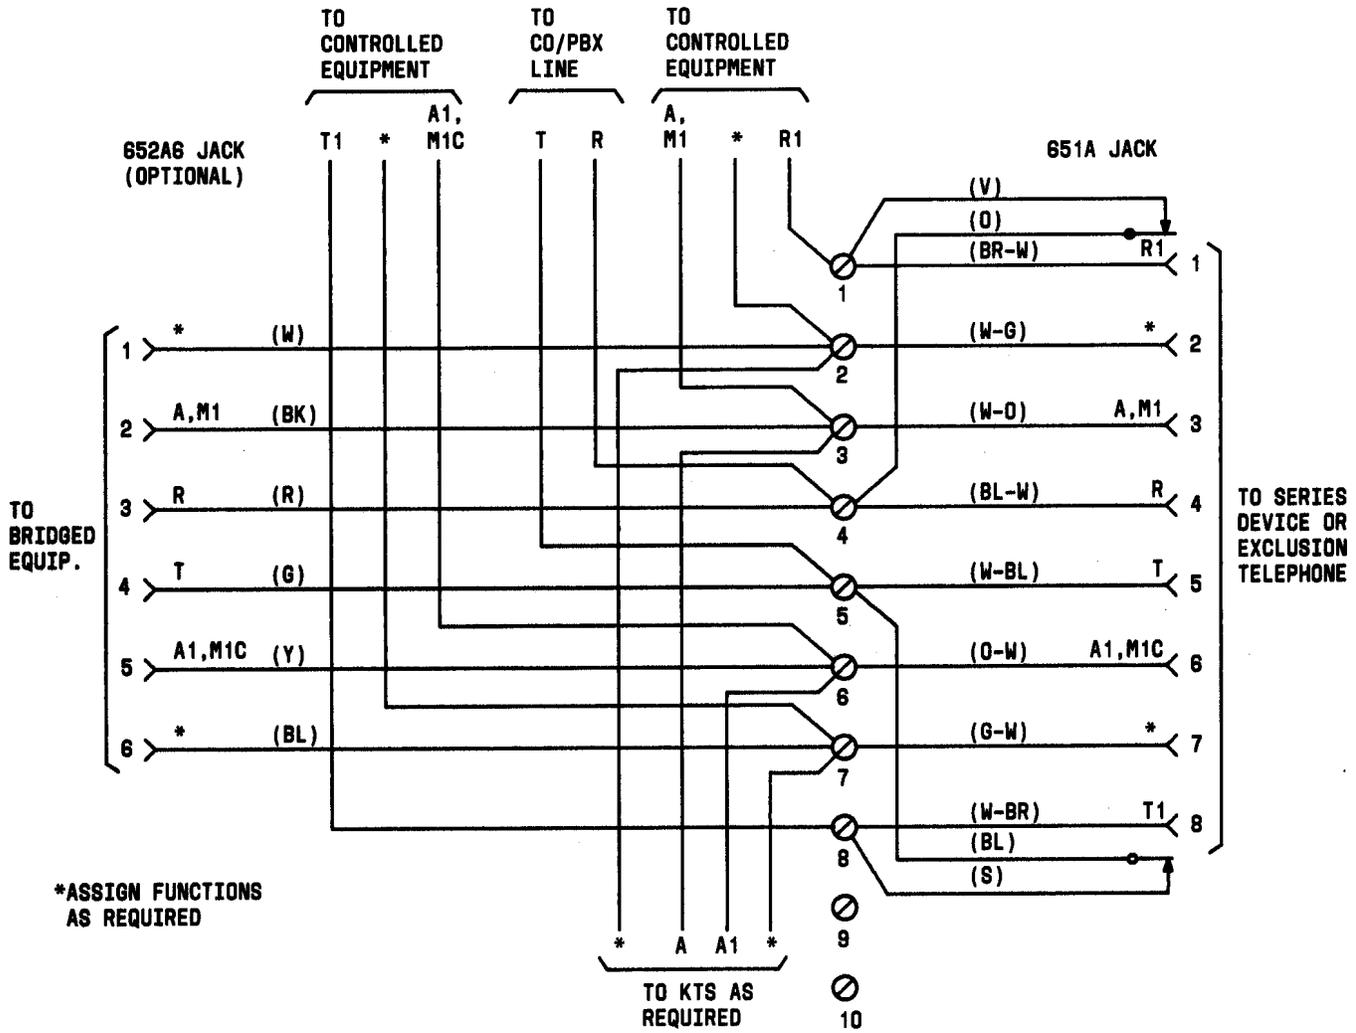

Fig. 16—Schematic Diagram, 635B Connecting Block (Series and/or Bridged Service)
3.14 635B Connecting Block: Remove the cover from the block by loosening the screw in the center. Mount the block on a suitable vertical surface. Connect the line and control station leads to the screw terminals (Fig. 16). If the optional 652A jack is to be installed, connect as shown in Fig. 16 or 17.